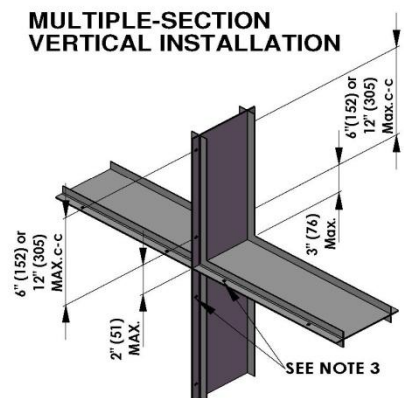

Figure 8
- 3. ATTACHING FIRE DAMPERS TO SLEEVES and MULTIPLE SECTION FIRE DAMPERS:** Damper shall be secured on all four sides to the sleeve, and to each other when multiple sections are shipped unassembled, as follows: Use #10 sheet metal screws, 1/4" (6mm) nuts and bolts, 1/4" (6 mm) tack welds, 3/16" (5mm) steel rivets, or clinching toggles, spaced a maximum of 6" (152 mm) on centers and a maximum of 2" (51mm) from the corners. A minimum of 4 attachments (2 on each side of the blade track) per side (16 per damper) are required. Fasteners are not to be located inside the blade track. See Figure 8.